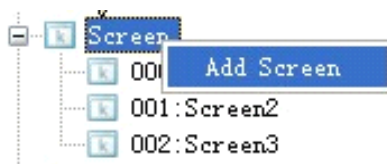

Figure 4-1: Screen option
1. Choose “New Screen” command in the Screen menu, or click  in the tool bar, or right click the Screen in the Project Manager and then click “Add Screen” in the right click menu. See Figure 4-1.